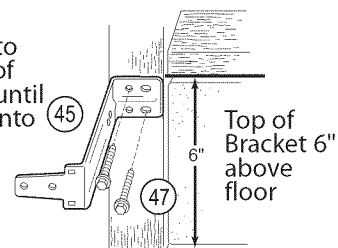

Figure 25 Install Safe-T-Beams®
- A** Install Safe-T-Beam® Source and Sensor (**Figure 25**):
- B** Attach Safe-T-Beam® Source (Red LED) and Sensor (Green LED) to Brackets (**Figure 25**):